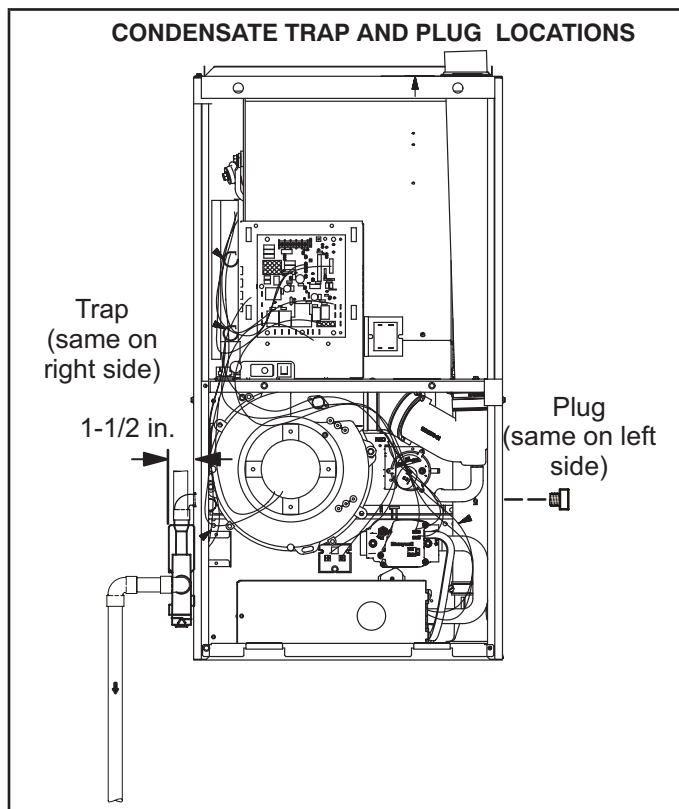
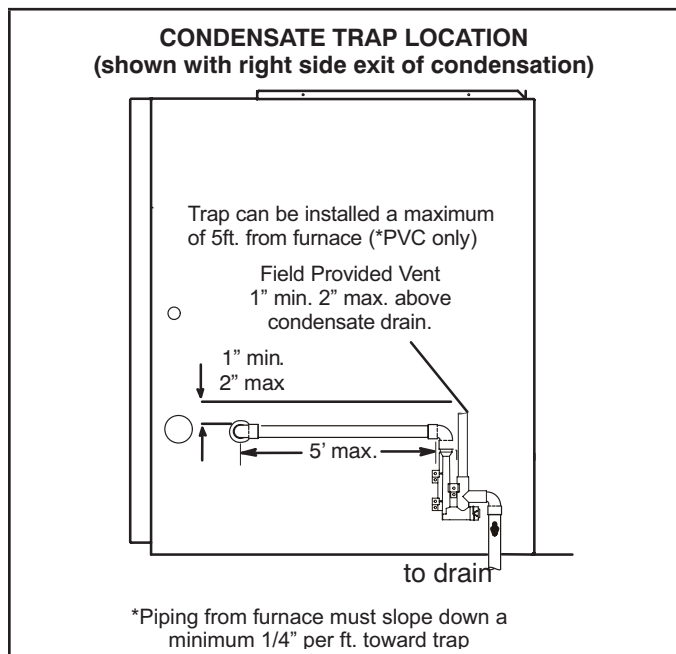

FIGURE 36
FIGURE 37
This unit is designed for either right- or left-side exit of condensate piping. Refer to FIGURE 36 and FIGURE 37 for condensate trap locations.
- 2 - Use a large flat head screw driver or a 1/2" drive socket extension and remove plug (FIGURE 36) from the cold end header box at the appropriate location on the side of the unit. Install provided 3/4 NPT street elbow fitting into cold end header box. Use Teflon tape or appropriate pipe dope